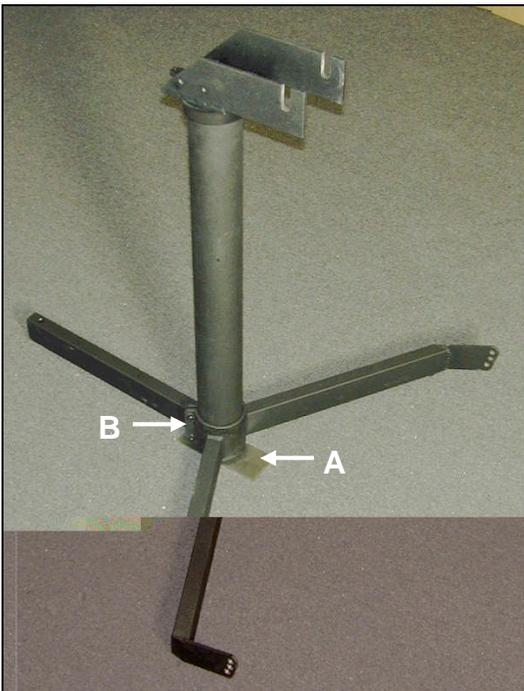

Figure 1
1. Remove the two-piece pier (Figure 1) from the crate.